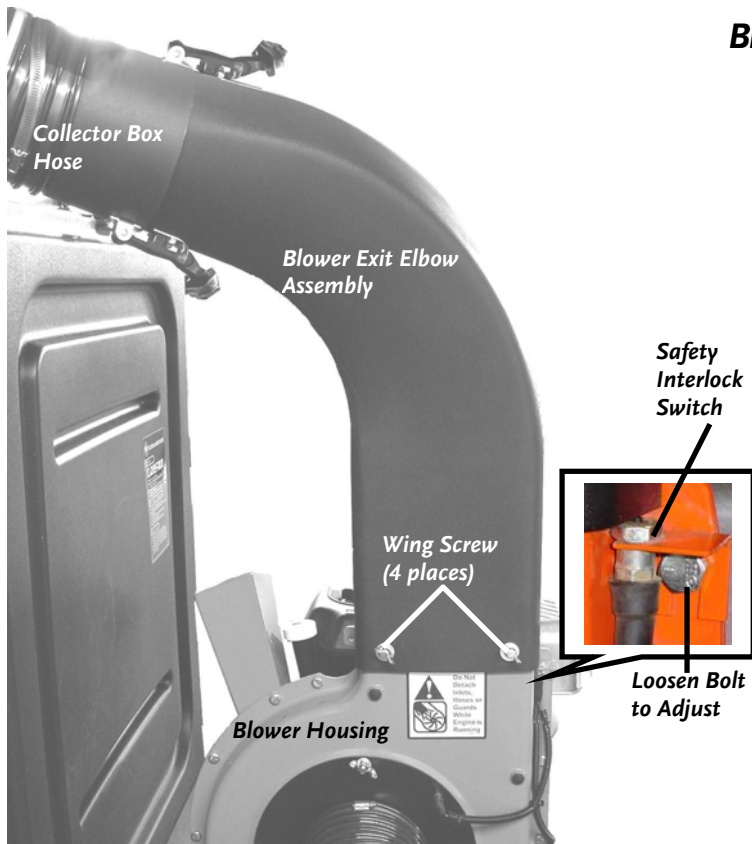

Figure 10
1. Install the Blower Exit Elbow Assembly on top of the Blower with the elbow pointing toward the Collector Box (**Figure 10**).
2. Align the hood of the Blower Exit Elbow Assembly to ensure that the Safety Interlock Switch is engaged, and then install a Lock Washer and Flat Washer over each of the four (4) 5/16" x 1/2" Wing Screws and hand tighten them to the Blower Housing (**Figure 10**).
**Tip:** Start all four (4) Wing Screws before tightening them securely.